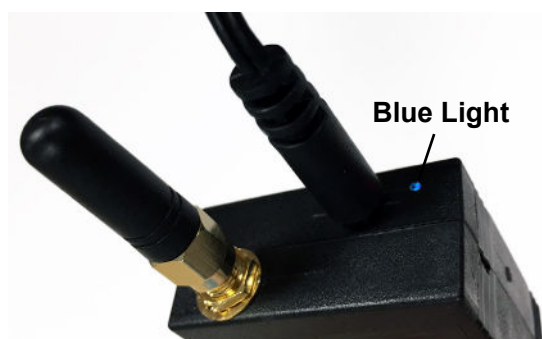

Figure IS-15, Actively Pairing
11. While connecting, the LED will illuminate blue. Do not disconnect the dongle. Refer to Figure IS-15.